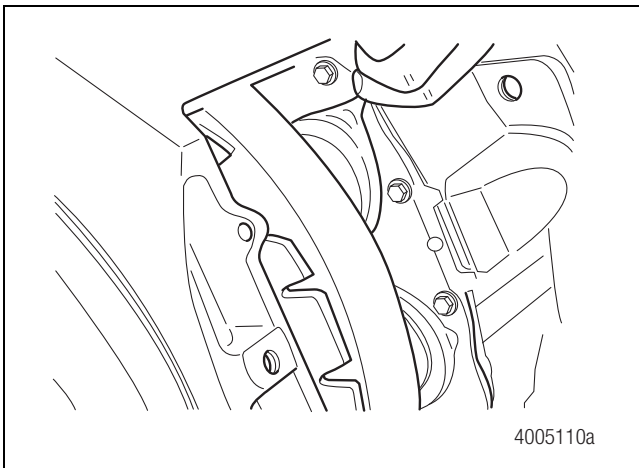

Figure 5.19
13. Use a 10 mm wrench to rotate the manual adjuster stem COUNTERCLOCKWISE and deadadjust the piston assemblies. With the brake fully deadadjusted, it may be necessary to lift the piston boot tab and release air that may be inflating the boot. Figure 5.19.